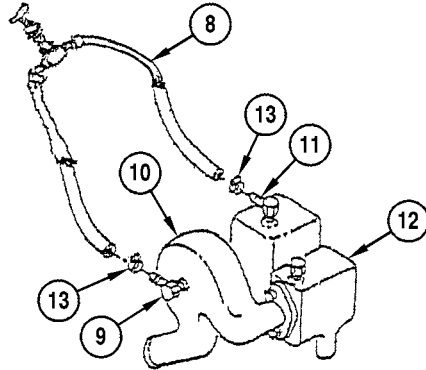

Figure 4-3. Bleeder Hose Assembly
7. Connect bleeder hose assembly (8) between elbow (9) on flange elbow (deaeration elbow) (10) and elbow (11) on thermostat housing (12) with two clamps (13) (Figure 2-17). See Figure 4-3.